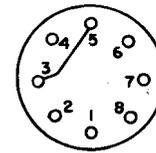

Fig. 2—404A Plug
2.02 **404A:** The 404A plug (Fig. 2) consists of a B8-1 small shell, octal type, electron tube base. The 404A plug is used with the 804A and B networks in the P1 Carrier System.